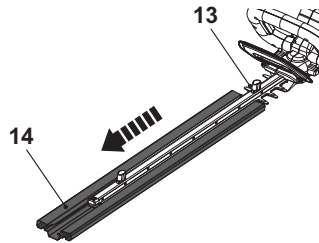

Fig. 1
1. Remove the blade cover (14) from the cutting device (blade) (13) before operation (Fig. 1).
2. Keep the blade cover (14) safely.